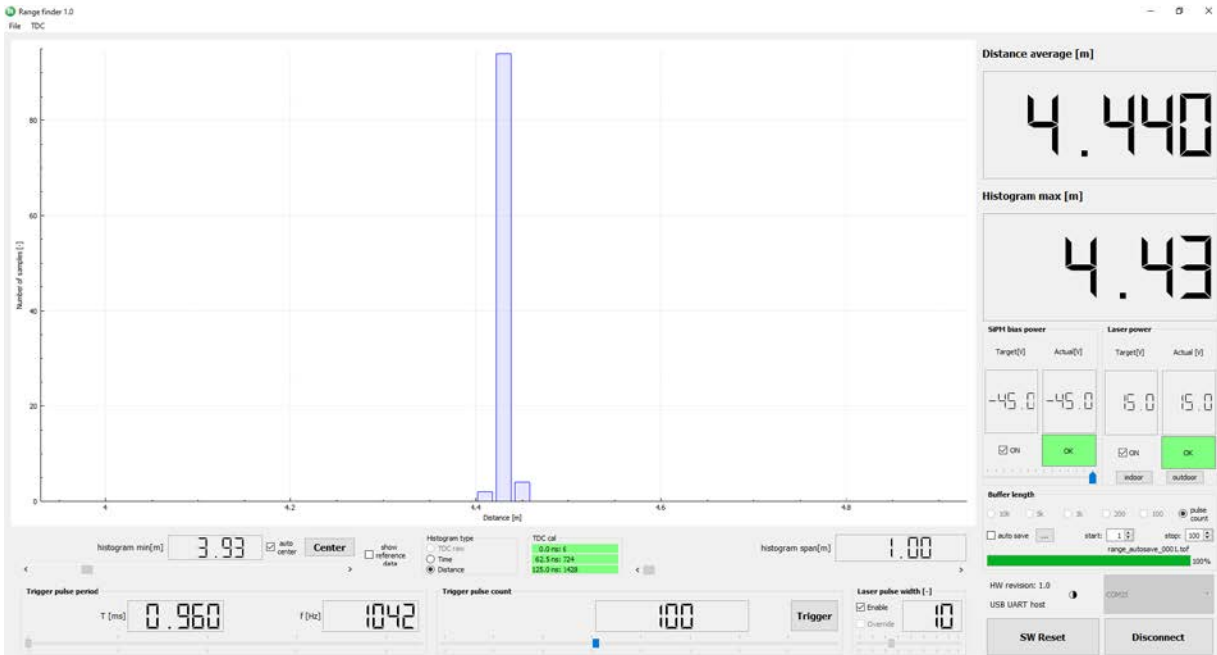

Figure 9. LiDAR Platform in Action
*Note: the valid measuring range is approximately from 0.3 m up to 23 m (Figure 9). Under certain conditions of use, the actual values shown by the SECO-RANGEFINDER-GEVK might differ from the actual distance by a few centimeters.*